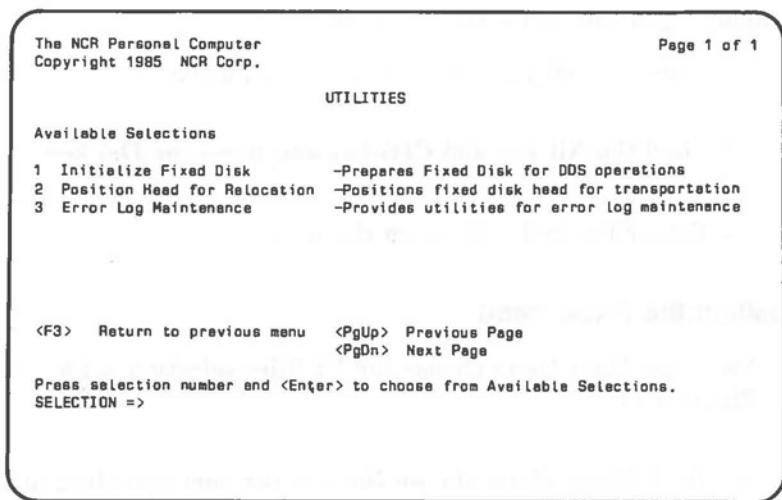

Figure 4-2 Utilities Menu Screen
2. At the Utilities Menu choose the number corresponding to the wanted function — positioning the head for relocation (selection 2) (see Figure 4-2).